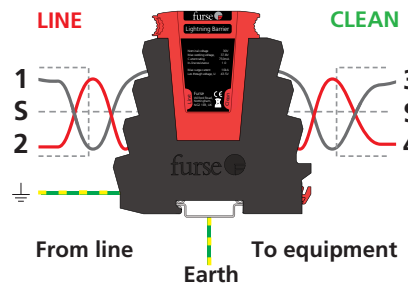

Figure 1a – Series connection of ESP SL** Series, ESP SL**X Series and ESP SL TN.
Furse ESP Lightning Barriers are connected in-line (or series) with the data communication, signal, measurement, or telephone line. See Figures 1a and 1b. The dirty, or line side of the protector should be connected to the cable carrying the incoming transient overvoltages. The output or clean side of the protector ensures a transient free signal to the equipment being protected.
The clean end of the Lightning Barrier should be connected to the cabling going to the protected equipment. See Figures 1a and 1b.
- By connecting an earth cable to the barrier via the Barriers Earth terminal marked ⊥. See Figure 1a and 1b.